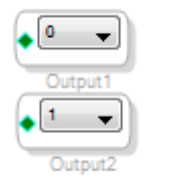

Figure 23. **Output1** and **Output2** Blocks in the Project Space
5. Repeat Step 4 to add another output (see Figure 23).